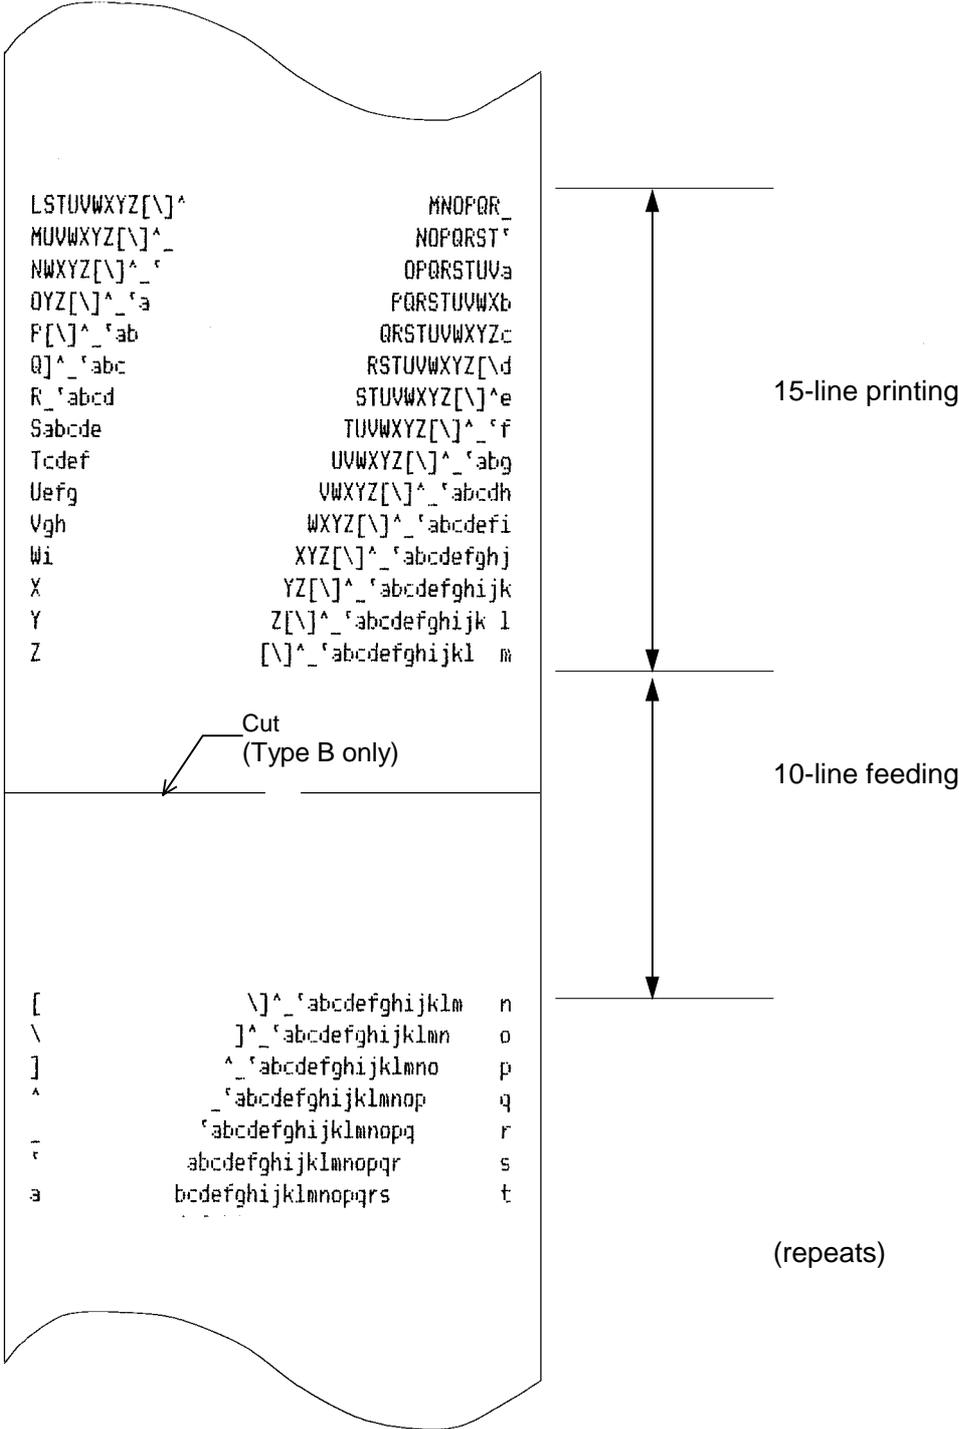
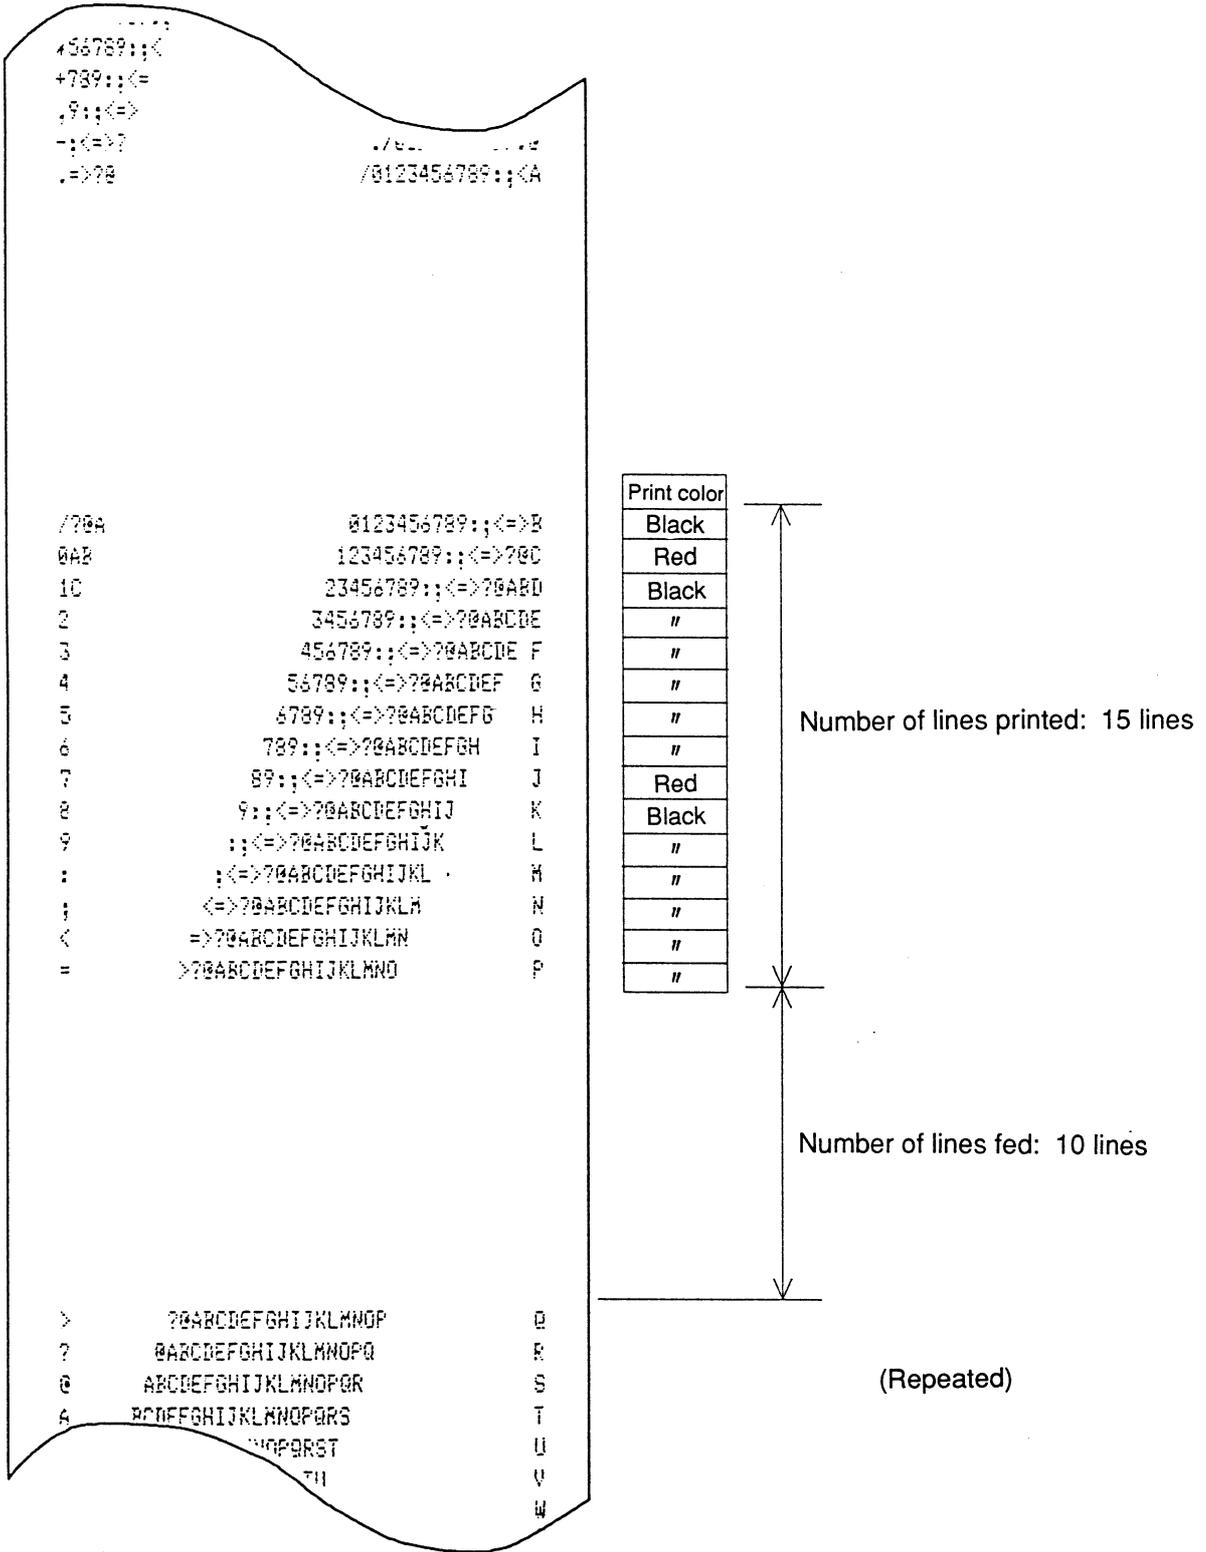

Figure A-1 Continuous Printing Test Pattern (Using the ERC-38(P)/(B))
Figure A-2 Continuous Printing Test Pattern (Using the ERC-38(B/R))
- The upper limiting conditions on continuous printing are as follows. (An example test pattern is shown in Figure A-1 and Figure A-2.)